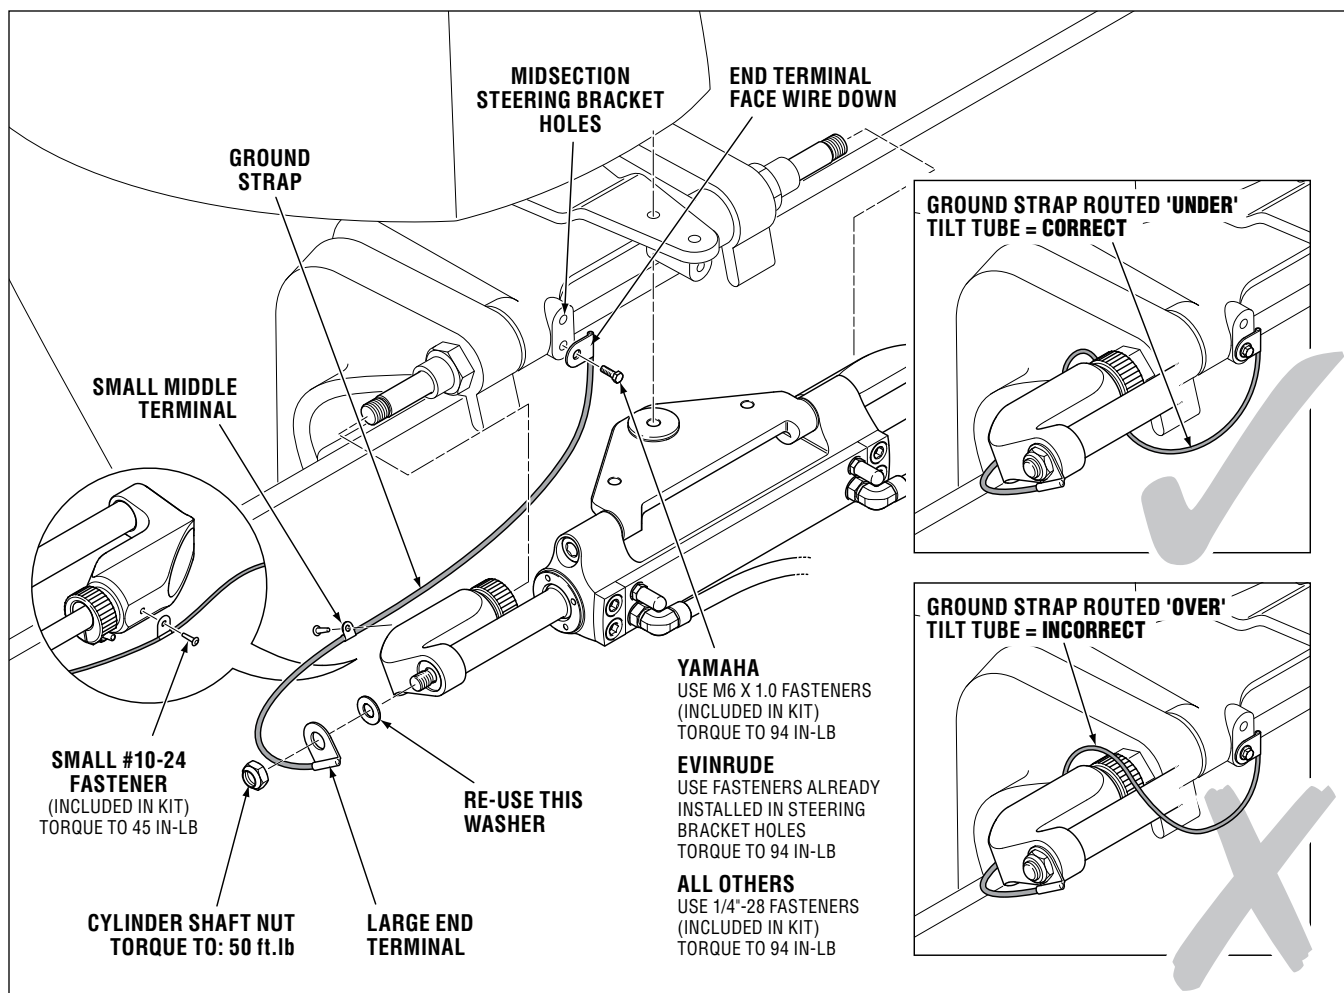

Figure 7. Ground Strap Installation.
If used in a saltwater application, install end of ground strap to midsection steering bracket hole (see Figure 7, page 11).
- Thread adjusting nut (item 10) **completely** onto steering/tilt tube.
- Install stainless steel washers (item 11) onto both sides of the support rod (item 9).
- Install plastic spacers (items 7 and 8) as per your engine details.
- To assist with the installation grease and install keys (item 14) into support rod (item 9).
- Grease and secure support brackets (item 12) to the support rod and the cylinder rod.
- Install washers (items 3 and 4)
- If using a ground strap, complete install of strap as shown in Figure 7, page 11.
- Install nuts (item 5 and 6) torque to 50ft-lb.
- Route ground strap **UNDER** the tilt tube. Install ground strap large end terminal to cylinder as per Figure 7.
- Attach small middle terminal to unused hole in rear of cylinder support bracket. Orient terminal as shown in Figure 7. Torque to 45 in-lb.